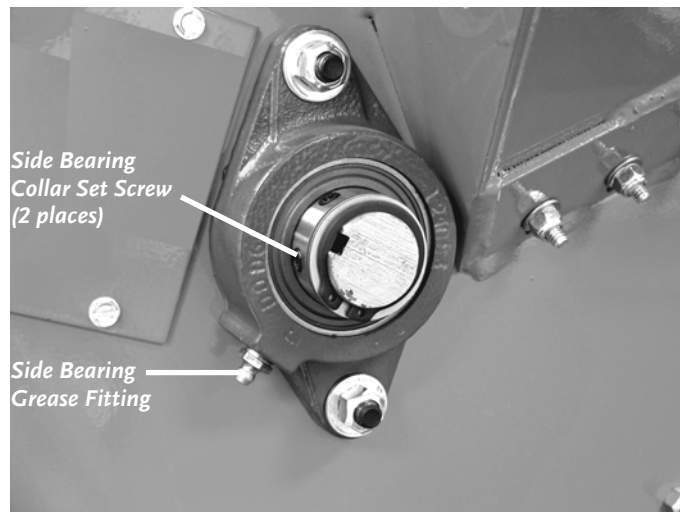

Figure 8
1. Wipe all dirt, etc., from the grease fittings with a clean cloth (**Figure 8**).
2. Apply no more than three (3) pumps of quality general-purpose lithium grease with a hand-pumped grease gun to each grease fitting, one (1) on the Chipper Side Bearing, and one (1) on the Drive Side Bearing.